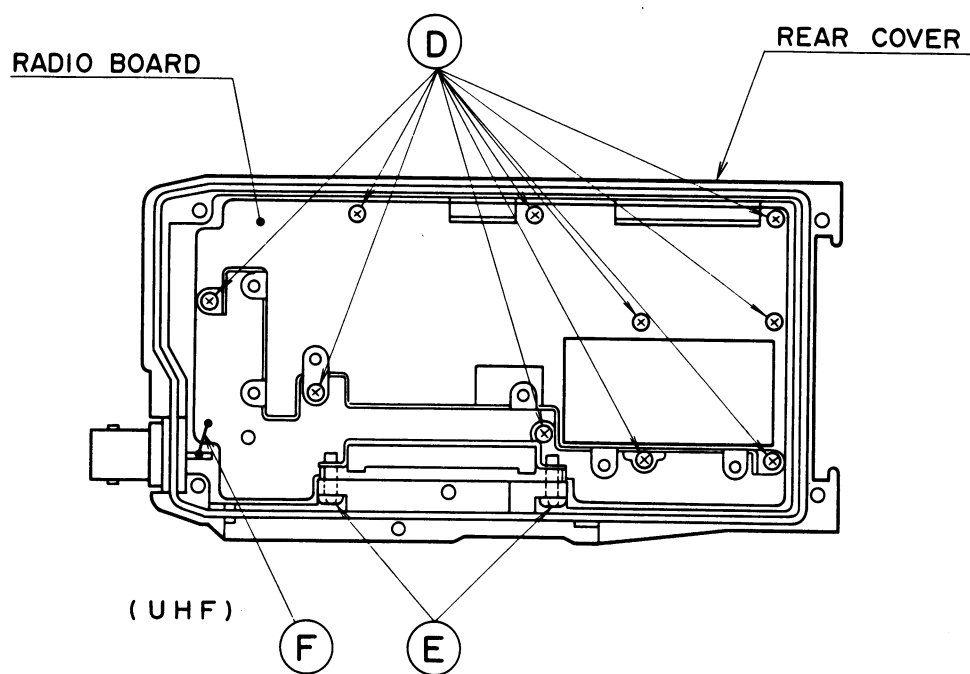

FIGURE 17 - DISASSEMBLY STEP 3
The radio portion can now be detached from the rear cover. Remove the ten (10) screws at (D). Remove the two (2) screws at (E). Unsolder the wire connected to the antenna connector at (F). Remove the radio board from the housing (see Figure 17).